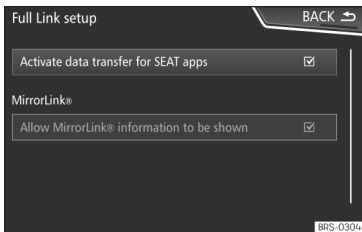

Fig. 136 Full Link Setup
- In the main menu for the Full Link setup, select **Activate data transfer for SEAT apps** >>> Fig. 136.